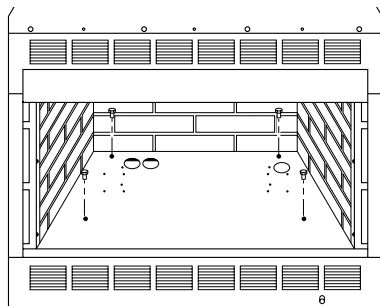

Figure 13 - Removing Firebox Bottom
2. Lift and remove firebox bottom (see Figure 13, page 10).